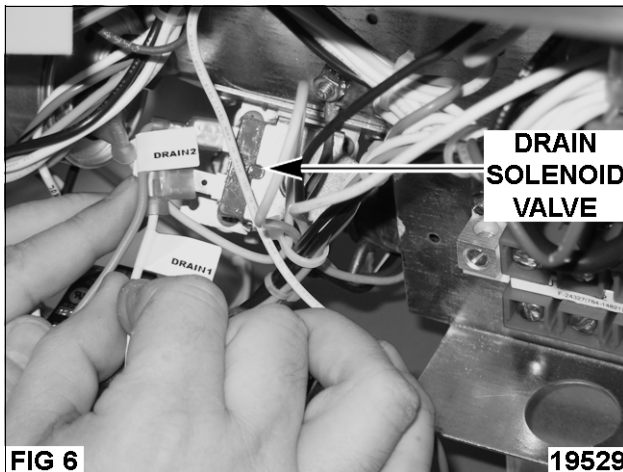

FIG 6 19529
2. Assemble drain tempering plumbing to the end of the LX/LXG Dishwasher drain hose per Fig 6.
5. Connect the other two wires marked as Drain1 and Drain2 in harness 814267 to drain solenoid valve as shown in Fig. 6.